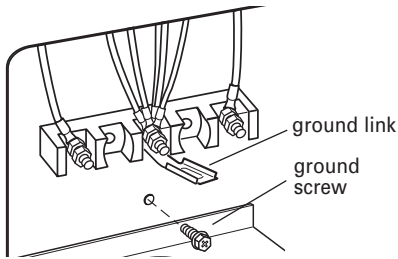

Figure 1
10. Remove the ground-link screw from the range frame. Save the ground-link screw and cup washer. Bend up the ground link so that it does not contact the range. See Figures 1 and 2.